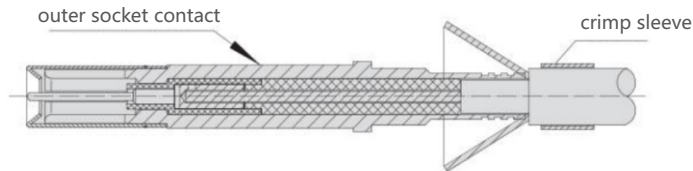

Figure 1.13
⑥As shown in Figure 1.13, install the outer contact onto the center contact (under the cable shield layer) until the center contact and the insulator are fully abutted.